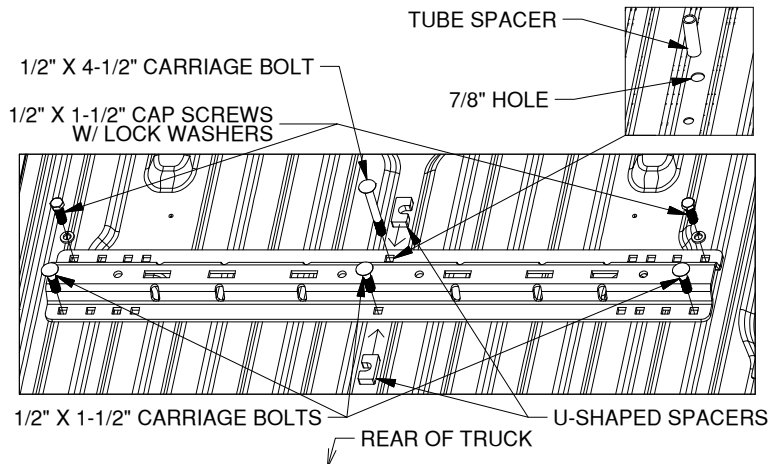
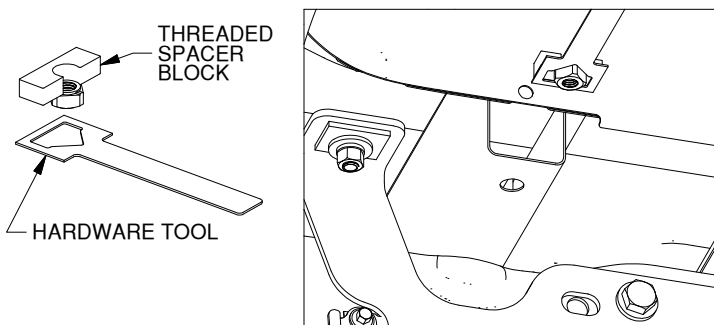

Figure D1: View looking into truck bed from rear of truck.
Figure D2: View looking at area above the frame in the wheel well.
1. **Install the rear mounting rail.** The rear mounting rail requires three different fasteners, as shown in Figure D1. Start by placing the tube spacer into the 7/8" drilled hole in the bed, then re-position the rear mounting rail over the drilled 9/16" holes.
2. **Install the 1/2" cap screws (two places).** Locate two 1/2" x 1-1/2" cap screws, 1/2" lock washers, threaded spacer blocks, and the hardware tool. Use the hardware tool to hold the threaded spacer block and insert the threaded spacer block into the bed cross member below the drilled 9/16" hole, see Figure D2. From the top of the bed, place a 1/2" cap screw and 1/2" lock washer into the mounting rail and through the bed, as shown in Figure D1. Thread the cap screw into the threaded spacer block until the block is firmly against the bottom of the bed. Ensure that the spacer block is in line with the corrugations of the bed and will not deform the bed when tightened. The hardware tool can be bent if needed to aid in positioning the threaded spacer block. Repeat the process on both sides of the truck.